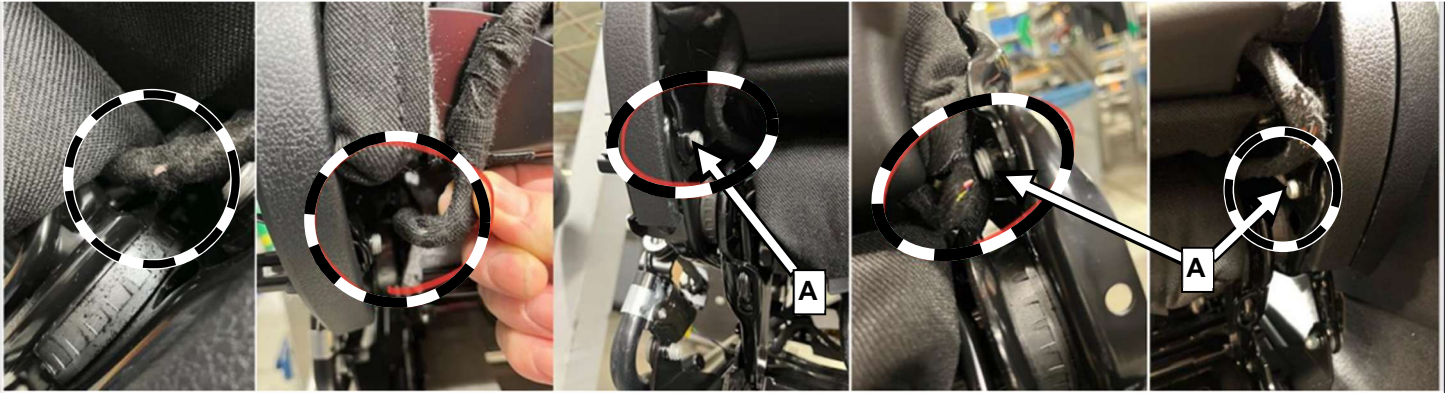

Figure 3 – NOT OK condition, shown on left and right front seats
3. Check the seat wiring harness routing on the left side of driver seat and the right of front passenger seat (outboard sides) in the area of the backrest hinge screw (Figure 3, A):
- a. The seat wiring harness *is* damaged (Figure 3): Perform **Work Procedures A and B**.